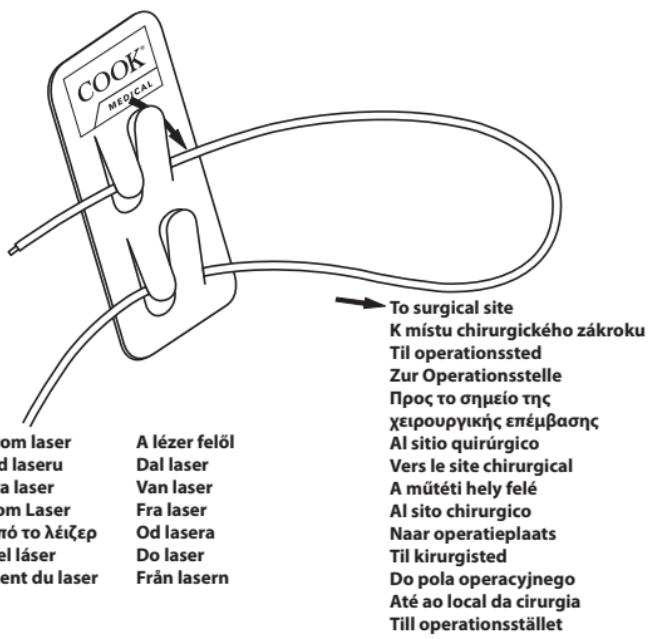

Fig. 2
**NOTE:** Use the upper clip to hold the fiber tip when not in use. (**Fig. 2**)